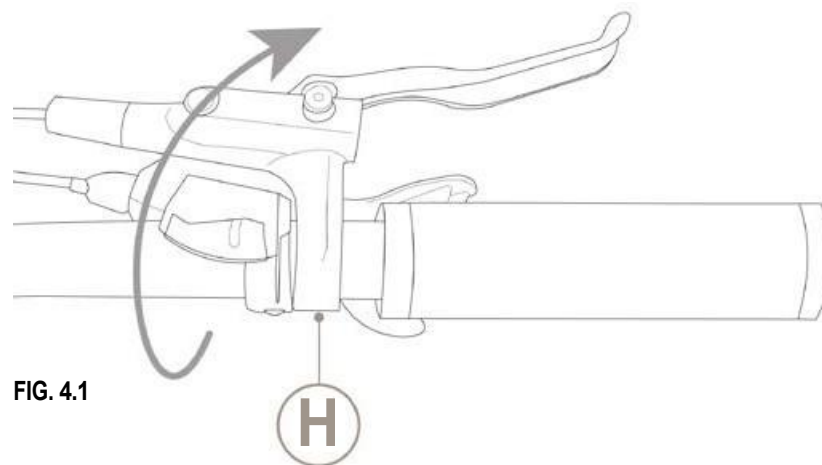

FIG. 4.1
- Rotate the brake lever using the tightening screw (Ref. H – Figure 4.1) until the hand position is comfortable; Make sure the screw is tightened correctly before using the pedal-assisted bicycle.